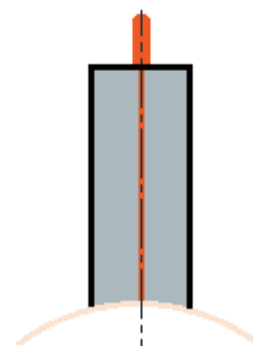

Figure 2 – Sandwich brush
The simplest brush - and also the most widely used - is the sandwich brush of figure 2 with its two machined layers made of the same Electrographitic (EG) grade¹ (for example EG367).